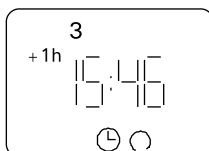

Figure 6.
- press the [m +] -button for the minutes setting. A single push moves the setting on one minute at a time; holding the button in continuously speeds up the process. (Fig. 6)